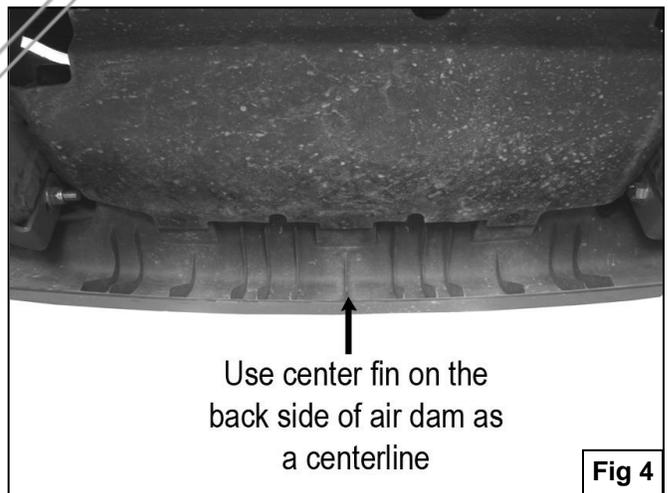

Fig 4
11. Mark the centerline of lower air dam by locating the series of small fins on the backside of air dam. Locate the center small fin and use it as a centerline (**Figure 4**), measure and mark a line 17 ½" from center line to each side of the air dam (**Figure 5**). **NOTE:** Do not follow contour of air dam.